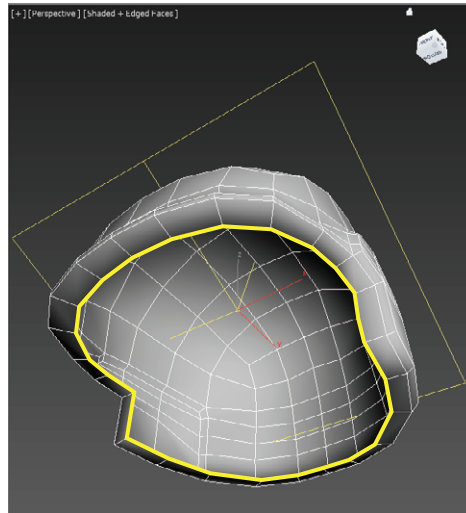

FIGURE 11.16 Create a new seam on the helmet.
7. Following the line in Figure 11.16, create a new seam on the helmet.